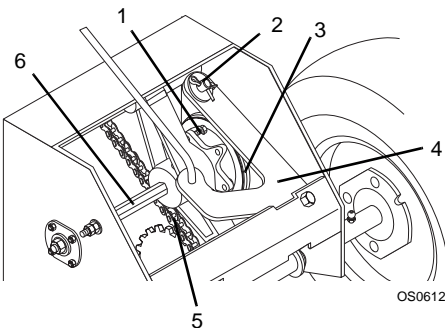

Figure 22
- Loosen nuts on idler hex shaft (Figure 22). Adjust the idler hex shaft in slot as necessary. Torque the nut to 70-146 lbf-in. (7.9 - 16.5 N•m).
3. Place speed selector in first (1) position and depress traction clutch lever to hold friction disc and hub in position.
4. Remove cap screws from hub (Figure 22).
5. Release traction clutch lever, shift to third (3) position, and remove friction disc.